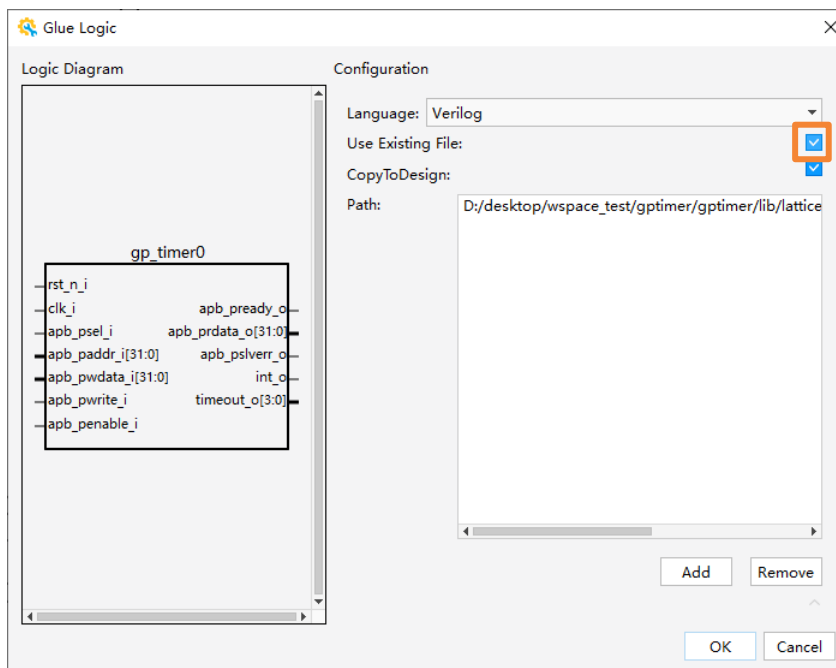

Figure 2.57. Existing RTL Module Configuration
- Or, you can use an existing RTL module by checking the **Use Existing File** checkbox. After checking the Use Existing File checkbox (Figure 2.57), browse to find the existing RTL module file path from the **Path** field. If you use an existing file, RTL references that file from the source. If you do not use an existing file, RTL creates a new file called `<module name>.v`. If **CopyToDesign** is enabled, a copy of the original source is created in the Propel project under `<project>/lib/glueLogics/`, if not enabled, it is referenced from its current location (default is CopyToDesign).